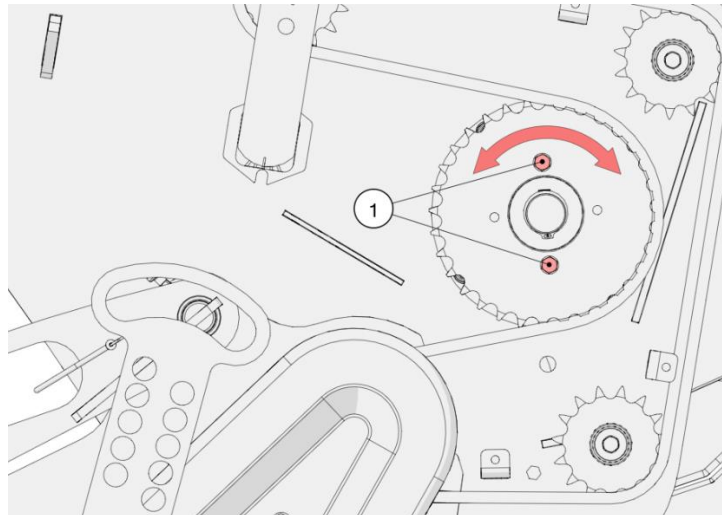

Figure 22. Replacing the locking bolts
- Remove the guard (1) by loosening the bolts (2) as shown in Figure 22
- Remove the cut locking bolts (1) and make sure no parts of the damaged bolts are between the drive components (Figure 22)
- Use the wrench to turn the rotor, set the holes of the protective device in a position to be able to insert new locking bolts (1) and tighten them